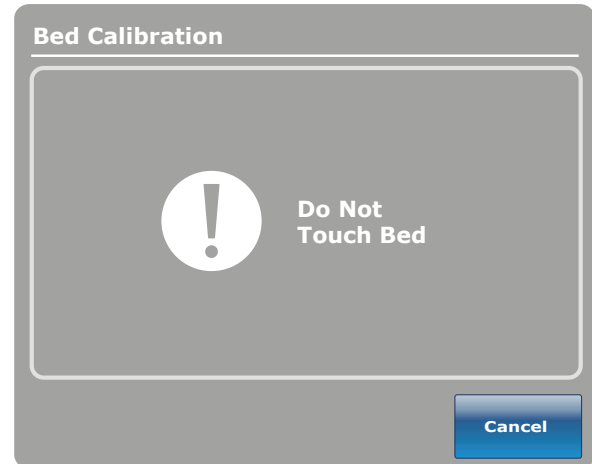

Figure 8
6. Press the **Next** button when done. The “Do Not Touch Bed” screen will appear as shown in Figure 8.